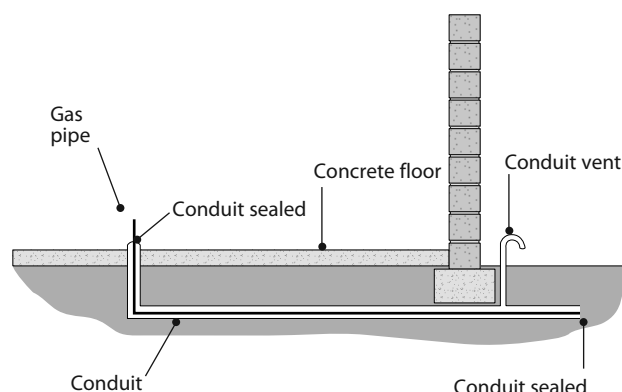

Figure 20-2
- 4) A vent must be extended above the grade and secured to the conduit. This vent conveys any leaking gas to the outside of the building. See Figure 20-2.